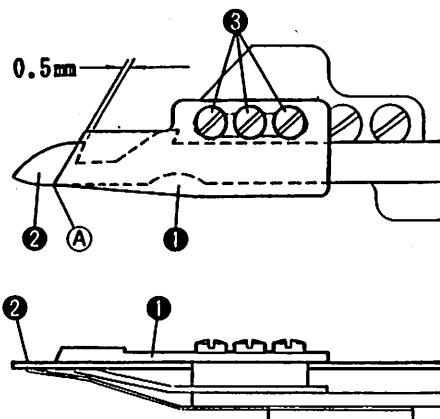

Fig.24
UPPER KNIFE ADJUSTMENT (Fig.24)
- (1) Upper and lower knives overlapping and their longitudinal position
The upper and lower knives ①, ② overlapping should be 0.5mm with the lower knife at its right limit position. Align the upper knife front edge ③ with the lower knife front edge ④. (Refer to Fig.24.)